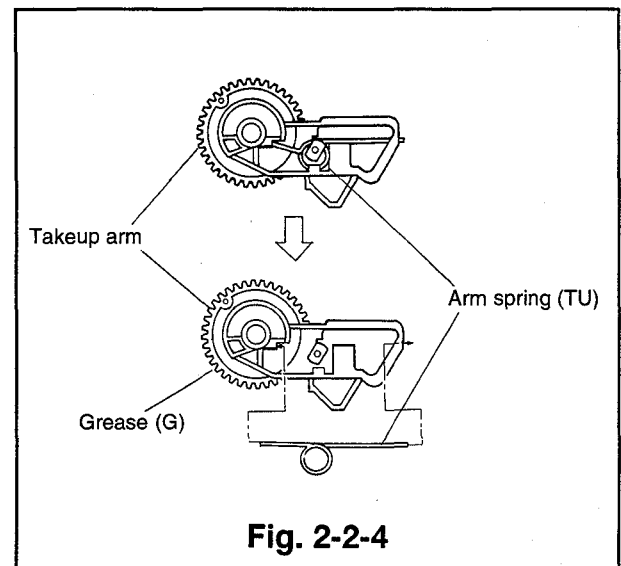

Fig. 2-2-4
- ⑦ Remove the arm spring(TU) from the takeup arm as shown in Fig. 2-2-4.